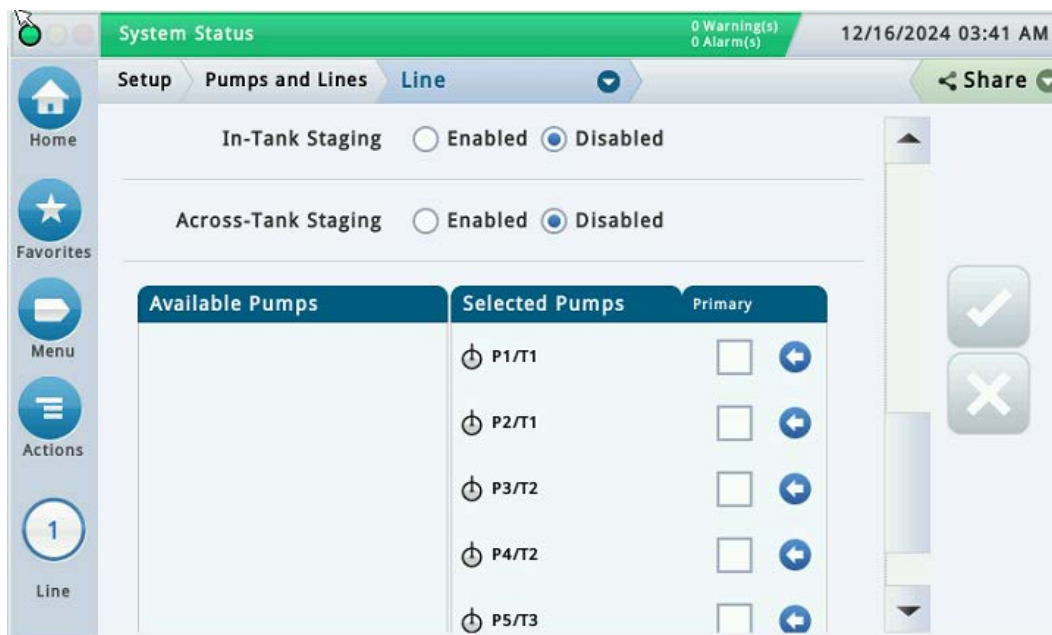

Figure 29. Line Setup Screen - Page 3
9. For the Line selected, page 3 of the Line screen lets you assign the appropriate pumps to the line (see Figure 29). Select a pump to assign to the line. If the Line Manifolder field above is set to Yes, you can select multiple pumps for this line. With Intelligent Pump Control, the pump name (P1 / T5 - Primary) may also include the pump (P1), the tank (T5) if assigned, and how this pump is used (Primary):